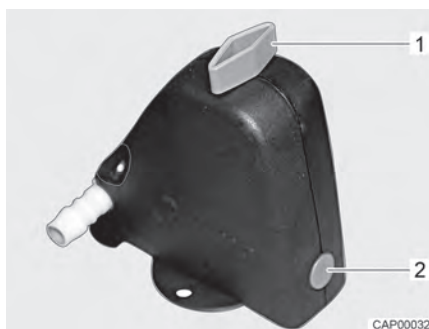
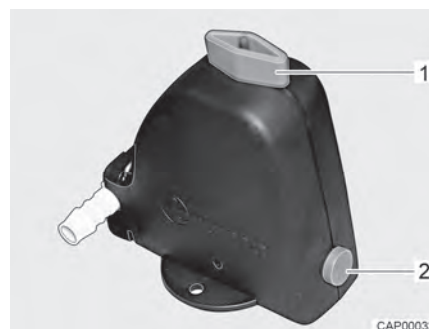

Fig. 136 Safety/drainage valve closed
Fig. 137 Safety/drainage valve open
- Open the safety/drainage valve (Fig. 136). To do this, turn the knob (Fig. 136,1) parallel to the safety/drainage valve. The push button (Fig. 136,2) jumps out. The open safety/drainage valve is shown in Fig. 137.